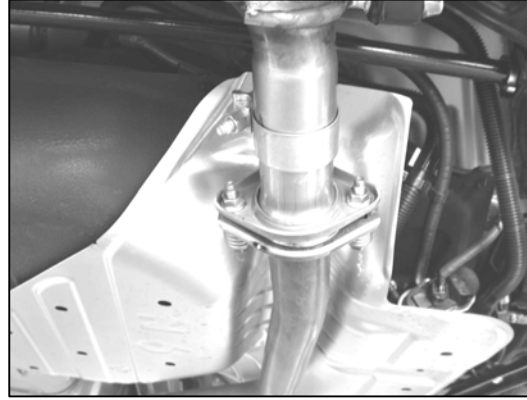

Figure 4
3. Place a clamp over the expanded end of muffler assembly and set it into position as shown in figure 4 making sure to install the hangers into the rubber brackets.